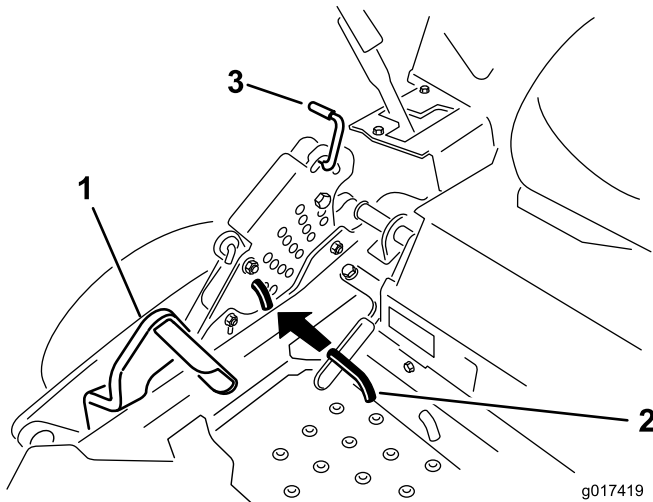

Figure 24
2. Push on the deck lift pedal with your foot and raise the mower deck to the transport position (also the 5-1/2 inch (140 mm) cutting height position) (Figure 24).
3. To adjust, rotate the pin 90 degrees and remove the pin from the height-of-cut bracket (Figure 24).
4. Select a hole in the height-of-cut bracket corresponding to the height-of-cut desired and, insert the pin (Figure 24).